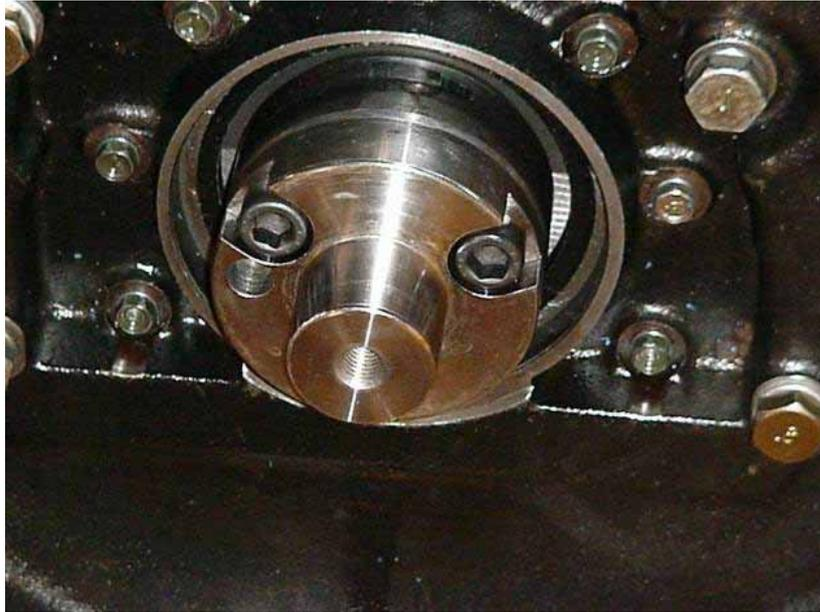

Figure 40 Crank Plate (Secured to Crankshaft)
- d.** Fit the crank plate (Table 5, Item 2) to the crankshaft with one hole positioned at the dowel pin and the other three holes aligned with the flywheel bolt holes (Figure 40).